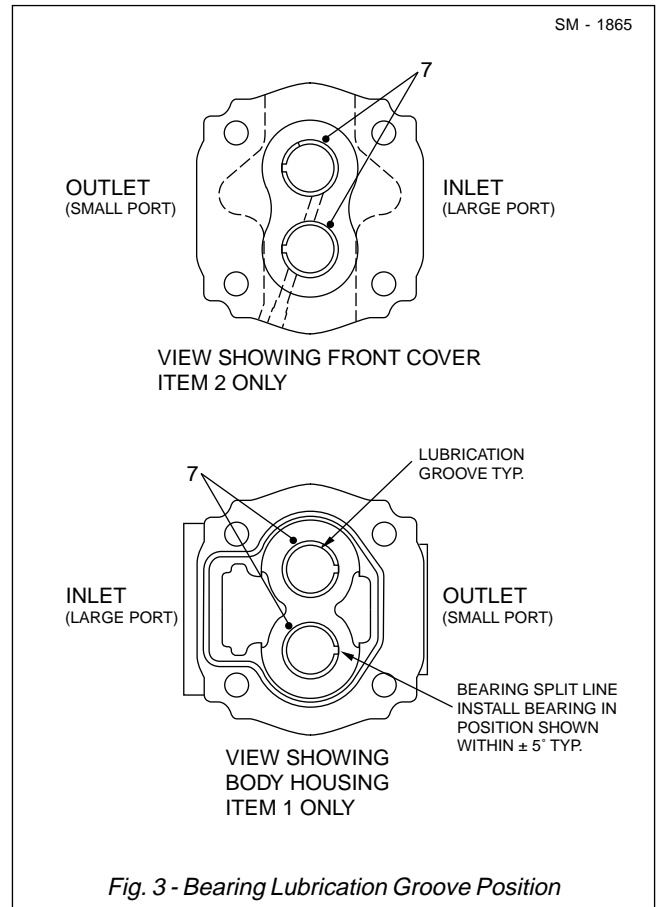

Fig. 3 - Bearing Lubrication Groove Position
Note: Assemble bearings (7) in the front cover (2) bores with the bushing split line positioned at 9 o'clock. The lubrication groove will be positioned at 11 o'clock, as shown in Fig. 3.